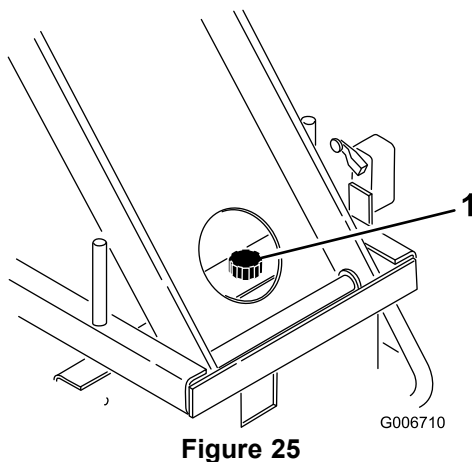

Figure 25
3. Clean area around reservoir breather cap (Figure 25).